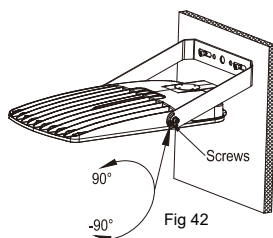

Fig 42
Step 5 . Use a wrench to loosen the adjustment Angle screw, and the Angle adjustment range "-90°-90°", as shown in Fig. 42: